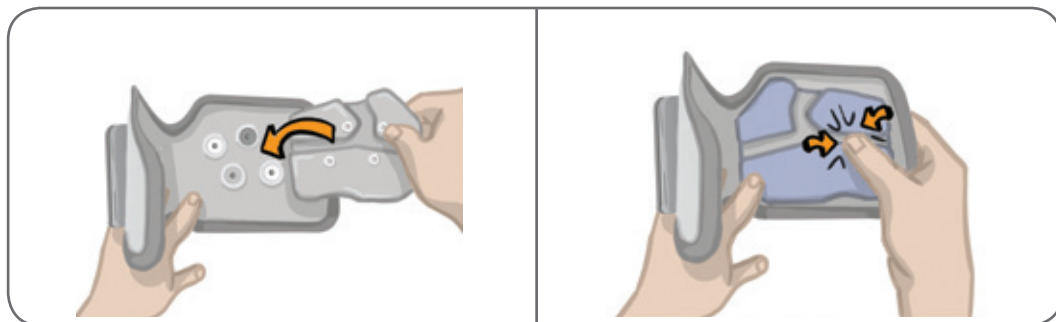

Figure 6-8: Aligning and Attaching the Steering Electrode
5. Align the snaps on the Steering Electrode with the plug holes on the lower leg FS Cuff. See Figure 6-8.
6. Press firmly to snap the Steering Electrode into the lower leg FS Cuff. Make sure to press on the areas above all four snaps. See Figure 6-8.